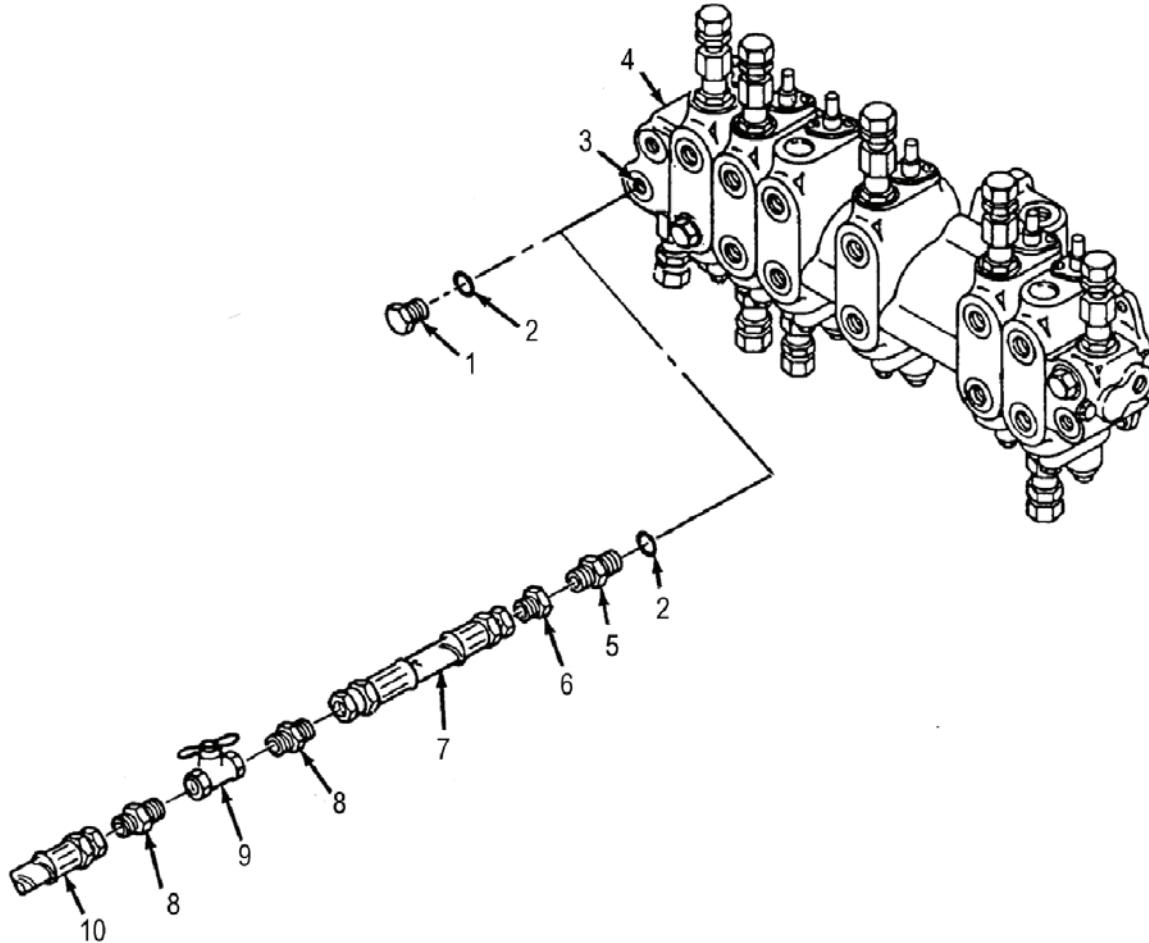

Figure 18. Accumulator Dump Valve Installation
2. Remove plug (Figure 18, item 1) and packing (Figure 18, item 2) from port 7 (Figure 18, item 3) of valve 13R (Figure 18, item 4). Discard packing (Figure 18, item 2).
3. Install new packing (Figure 18, item 2) and nipple (Figure 18, item 5) in port 7 (Figure 18, item 3).
4. Install reducer (Figure 18, item 6) to nipple (Figure 18, item 5).
5. Connect tube assembly (Figure 18, item 7) to reducer (Figure 18, item 6).
6. Install two adapters (Figure 18, item 8) on globe valve (Figure 18, item 9), and connect this assembly to tube (Figure 18, item 7), with arrow of globe valve (Figure 18, item 9) pointed toward port 7 (Figure 18, item 3).
7. Connect hose assembly (Figure 18, item 10) to adapter (Figure 18, item 8) at end of globe valve (Figure 18, item 9).